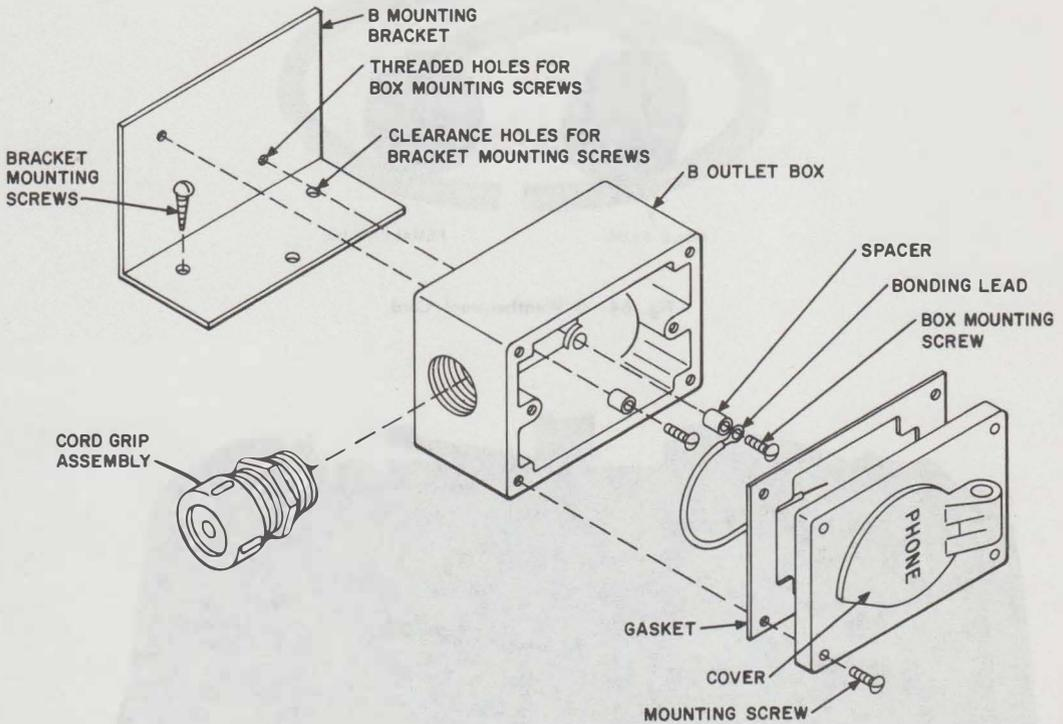

Fig. 63—Assembly of B Weatherproof Male Jack to B Outlet Box and B Mounting Bracket
3.15 The B weatherproof male or female jack mounts in the B outlet box on the B mounting bracket as shown in Fig. 63.